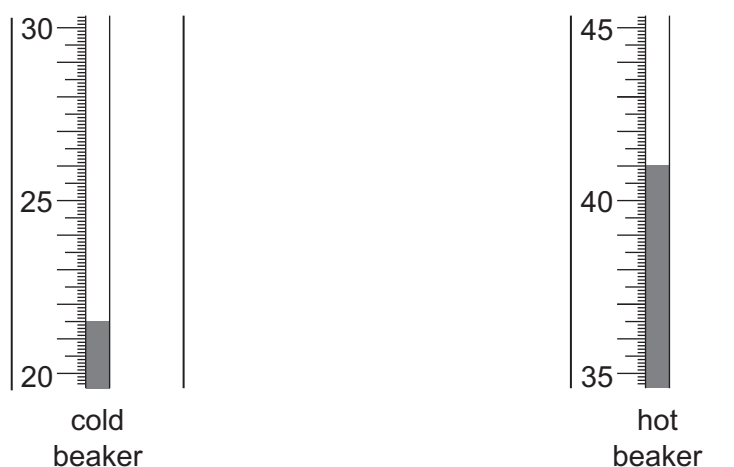

Fig. 1.3
- Step 9 The temperatures of the water in each beaker were measured. The thermometers are shown in Fig. 1.3.
- (a) (i) State the temperatures shown on the thermometers in Fig. 1.3. Include the unit.